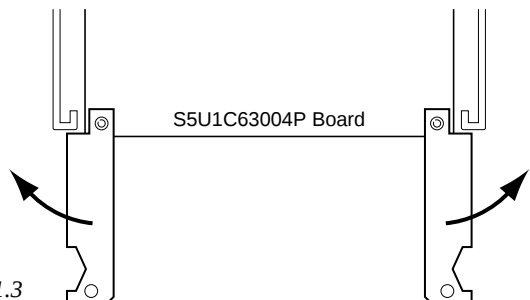

Fig. 2.1.3
- (1) Unfasten the screws located on the left and right sides of the front panel of the ICE by turning them counterclockwise, then remove the front panel.
- (2) Insert the S5U1C63004P board into the ICE along its uppermost guide rails until the tip of the board touches the back of the ICE. If some other board is mounted on the uppermost guide rails, remove that board by using the jig supplied with the ICE before you insert the S5U1C63004P board (see Figure 2.1.3).